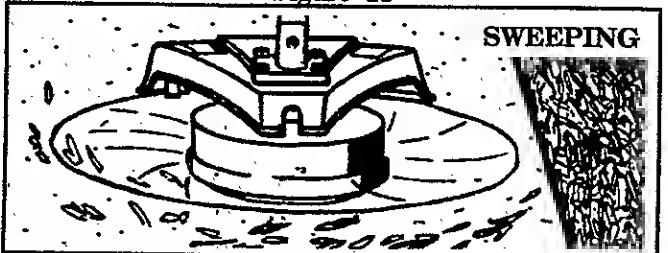

Figure 14
- SWEEEPING** – Figure 14 . The fanning action of the rotating line can be used for a quick and easy clean up. Keep the line parallel to and above surfaces being swept and move tool from side to side.